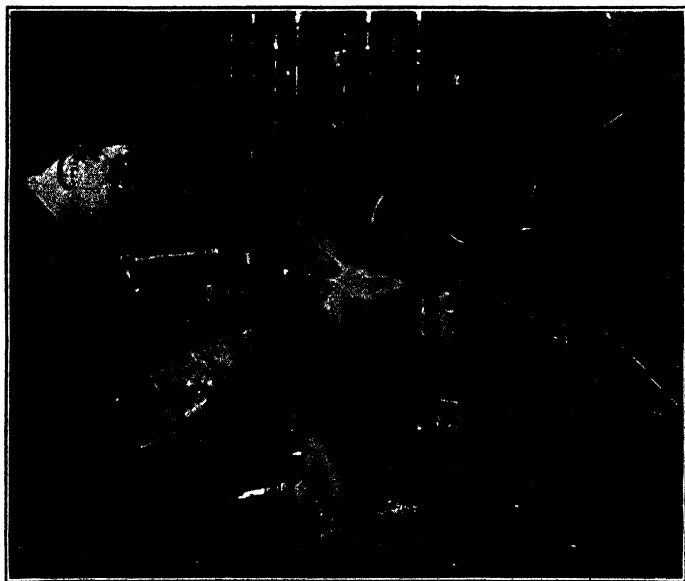

Fig. 88. Radiator Is Removed if Welding Flame Is Near It
**Frames.** Almost all frame repairs necessitate a certain amount of dismantling of other parts. The extent of the dismantling depends upon the location of the proposed weld. If the work is to be done under the body, it is best to remove the car body. This is not absolutely necessary, however, because the work can be done by merely jacking up the body several inches to give enough room to do the work, and protect the body from the heat of the welding flame. If the weld is to be done close to the radiator, this should be removed so that the solder will not be melted out, Fig. 88. If the weld is about 12 inches from the radiator, the solder can be protected by placing sheet asbestos over the radiator. In this connection it is well to remind the operator that it is always advisable to cover the parts of the car near the welding with sheet asbestos to protect them from any possibility of the flame or heat getting too close.